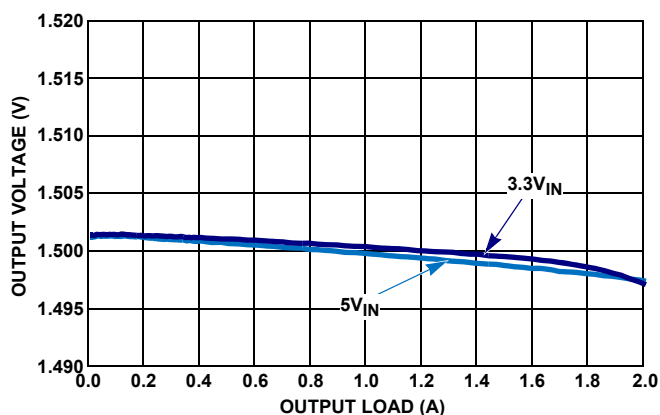

FIGURE 8.  $V_{OUT}$  REGULATION vs LOAD,  $f_{SW} = 2\text{MHz}$ ,  $V_{OUT} = 1.5\text{V}$ ,  $T_A = +25^\circ\text{C}$
- Not tested in production. Characterized using evaluation board. Refer to Figures 8 through 11 load regulation diagrams.  $+105^\circ\text{C}$   $T_A$  represents near worst case operating point.